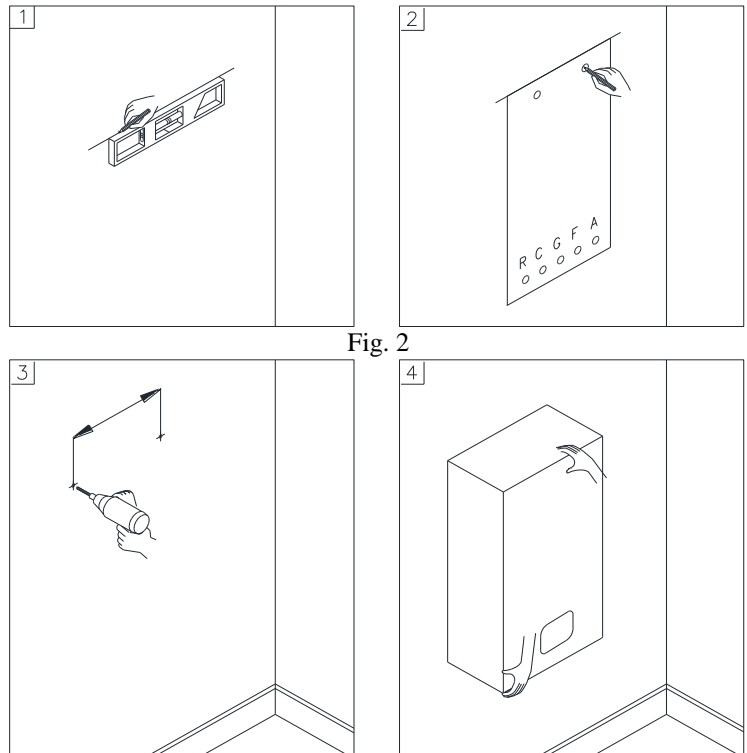

Fig. 2
To install the appliance, proceed as follows (see fig. 2):
- To facilitate the installation, the boiler is supplied with a hydraulic connection kit (see fig.2).